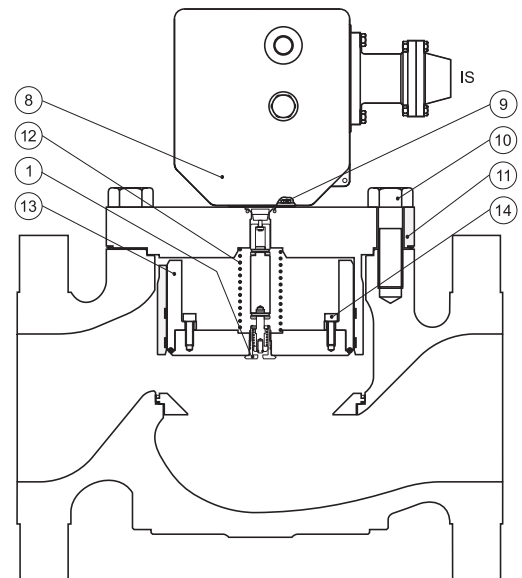

Figure 7. Type OSE - Commissioning Schematic
(key 10, Fig. 7)
Table 6. Torques for Bypass (key 1, Fig. 7)
Table 4. Torques (key 9 & 14, Fig. 7)